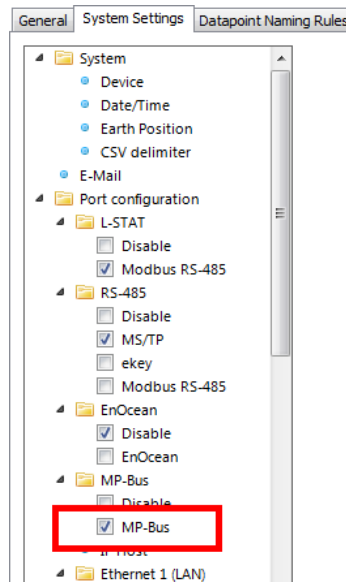

Figure 173: Enabling MP-Bus in the Project Settings Dialog.
2. In the **System Settings** tab enable the MP-Bus protocol on the MP-Bus port, as shown in Figure 173. When using an LMPBUS-804 activate the MP-Bus protocol on the USB port.